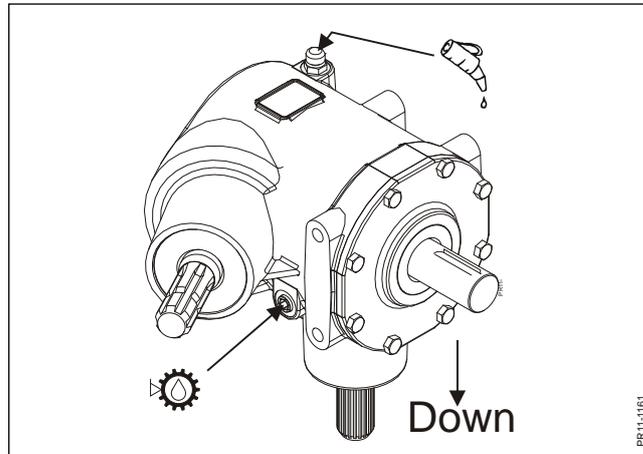

Fig. 4-7
- Fig. 4-7 Oil content:** **1.80 litres**